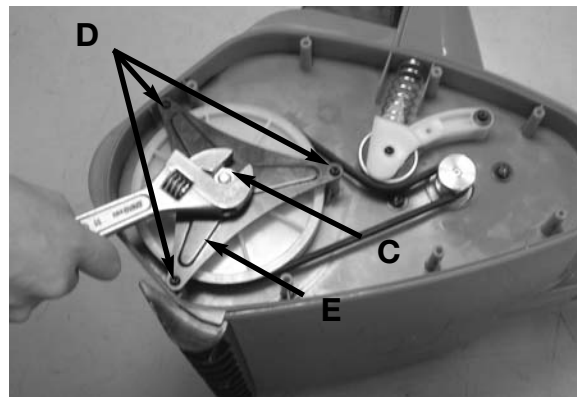

Fig. 8
2. Remove the flange lock nut (C) and remove the 3 screws (D) from the belt case cover (E) using a #T20 Torx bit or flat blade screwdriver. (Fig. 8)
4. Loop the new belt around the drive pulley and driven pulley (Fig. 8). Pull the belt tensioner (idler arm) away from the drive pulley to install the belt around the drive pulley.